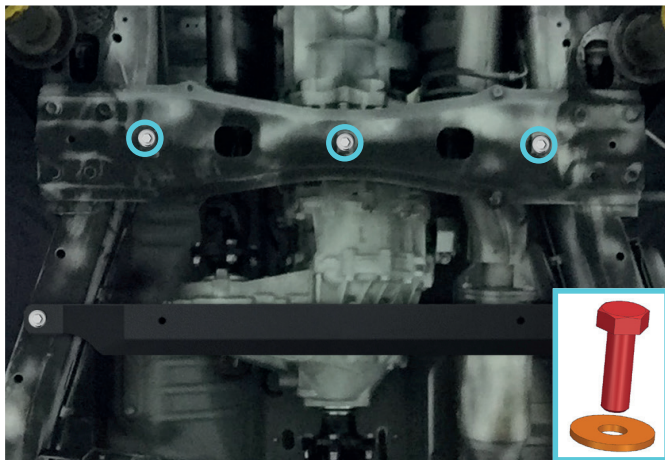

Fig. 2.1
2.1 If RIVAL transmission skid plate NOT installed: Loosely insert supplied bolts M8x1.25x25 (item A) with washers M8 (item B) as shown in fig. 2.1.